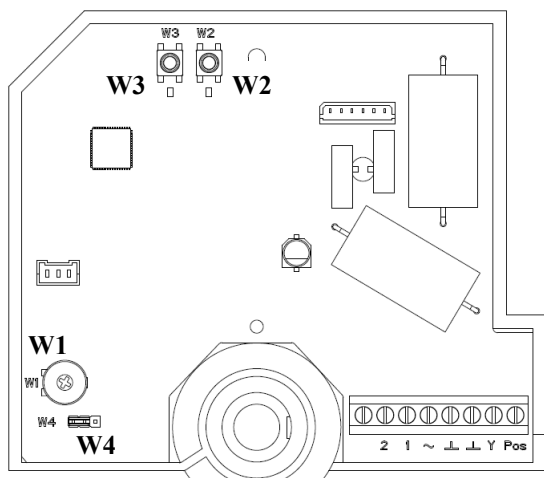

Fig 1. Circuit Board Layout
Factory setting; can be reversed by pressing the right-hand pushbutton (W3) located on the PCB (see Fig. 1).
Input signal Y can be selected by button W2 (see Fig. 1).
The moving direction can be reversed by pressing button W3 (see Fig. 1). When LED is ON, input signal 0(2) Vdc represents the upper limits (factory default); when LED is OFF, input signal 0(2) Vdc represents the lower limit.